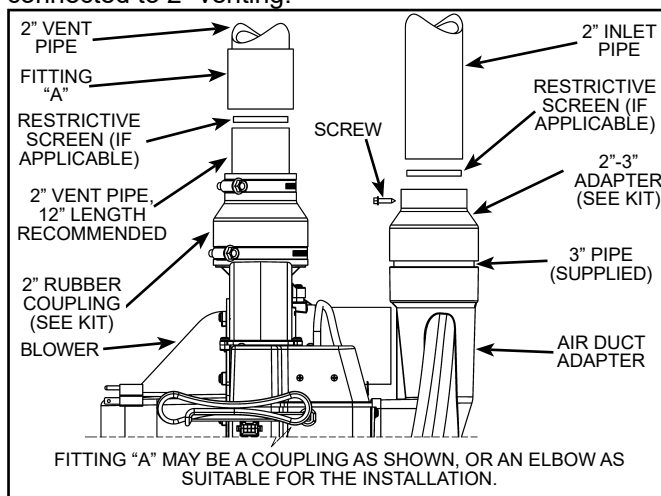
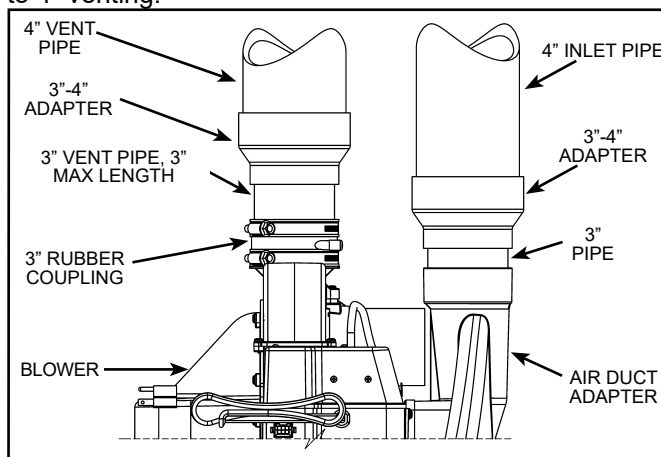

Figure 44.
Figure 46.
4. Make sure that the plastic tubing is still attached from the air pressure switch to the port on the blower motor housing. Make sure the plastic tubing is not folded anywhere between the pressure switch and the blower motor housing (see Figure 44 through Figure 46).
Important: These connections must be properly seated and tightened to prevent the leakage of flue gases into the area. See Figure 44 through Figure 46.
Figure 44 shows the configuration for heaters direct connected to 2" venting.
Figure 46 shows the configuration for heaters connected to 4" venting.
The restrictive screen (see Figure 38) and the air intake piping should be secured in place with a screw. To prevent damage to the equipment, first position the restrictive screen in place, then drill a pilot hole suitable for the screw being used. The screen must be fully seated and the screw should not interfere with the airflow through it. Once the pilot hole is drilled, place the intake pipe in position and secure in place using the screw (see Figure 44 through Figure 46). Do not use glue to secure this joint in order to allow the screen to be removed for cleaning. The screen in the exhaust piping should be located close to the blower and all exhaust piping joints should be glued.
If the installation requires restrictive screens (see Figure 38) the restrictive screens should be installed near the blower as shown in Figure 44 through Figure 46. If the restrictive screens are installed near the blower, it is recommended that debris screens (see Figure 38) be installed at the terminations.